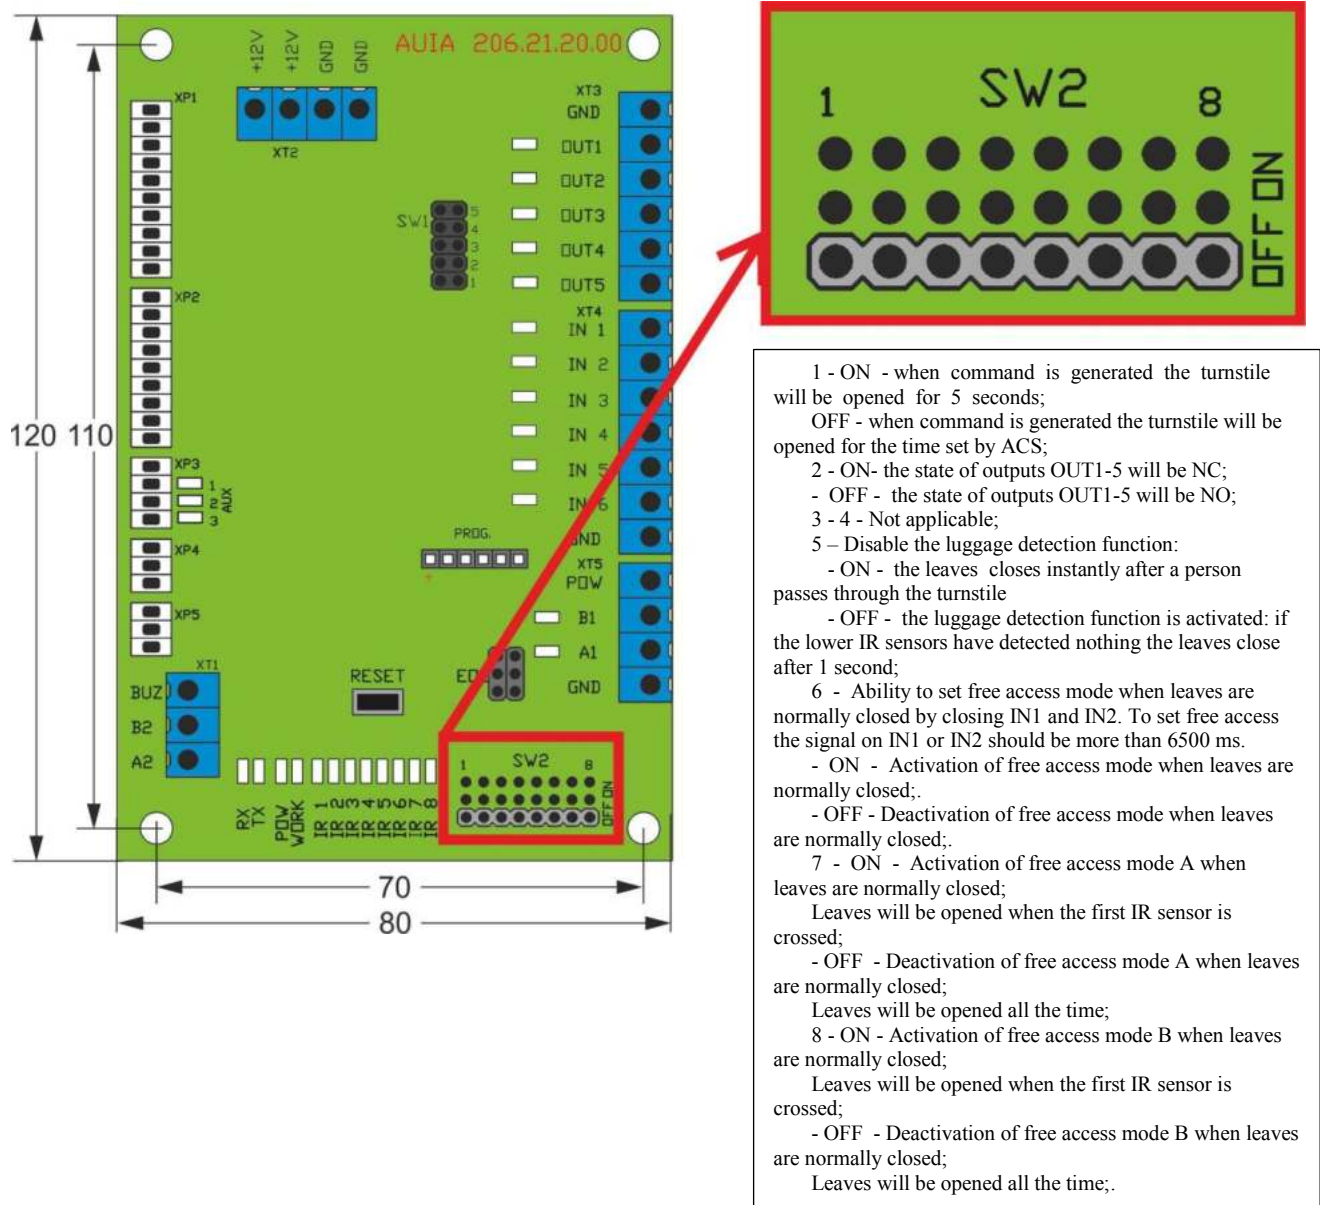

Fig. 8 – Appearance of controller AUIA.206.21.20.00
1.5.1.1 Appearance of controller AUIA.206.21.20.00 is shown in *Figure 8*.